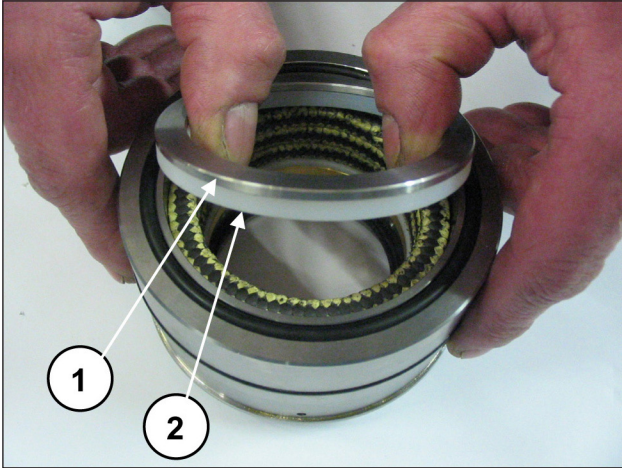
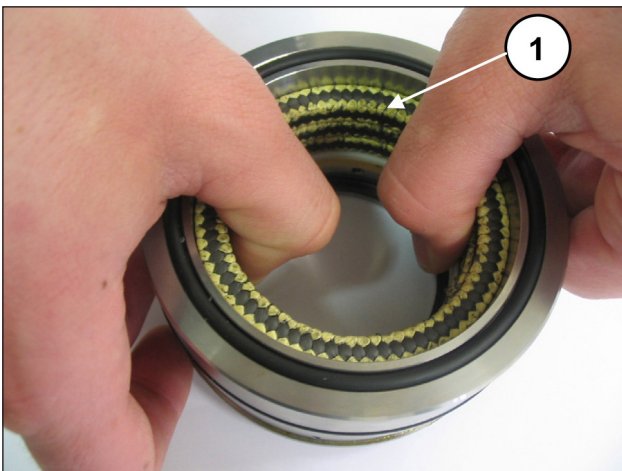

Fig. 191
Fig. 192
Separate the seal support from the liner, remove the spring ring and scraper ring (pos. ①②, Fig. 191) to access the pressure seals (pos. ①, Fig. 192).